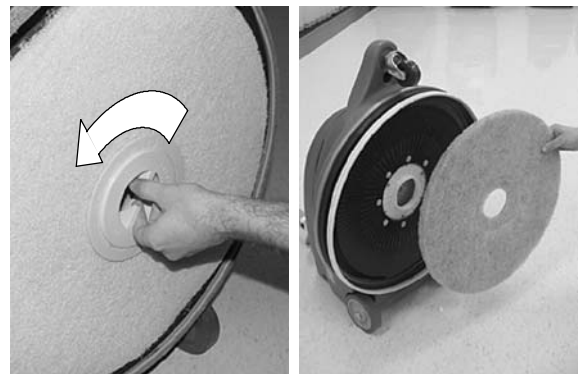

FIG. 9
1. After each use, inspect the burnishing pad for wear. If worn, remove the pad and flip it over or replace it (Figure 9).